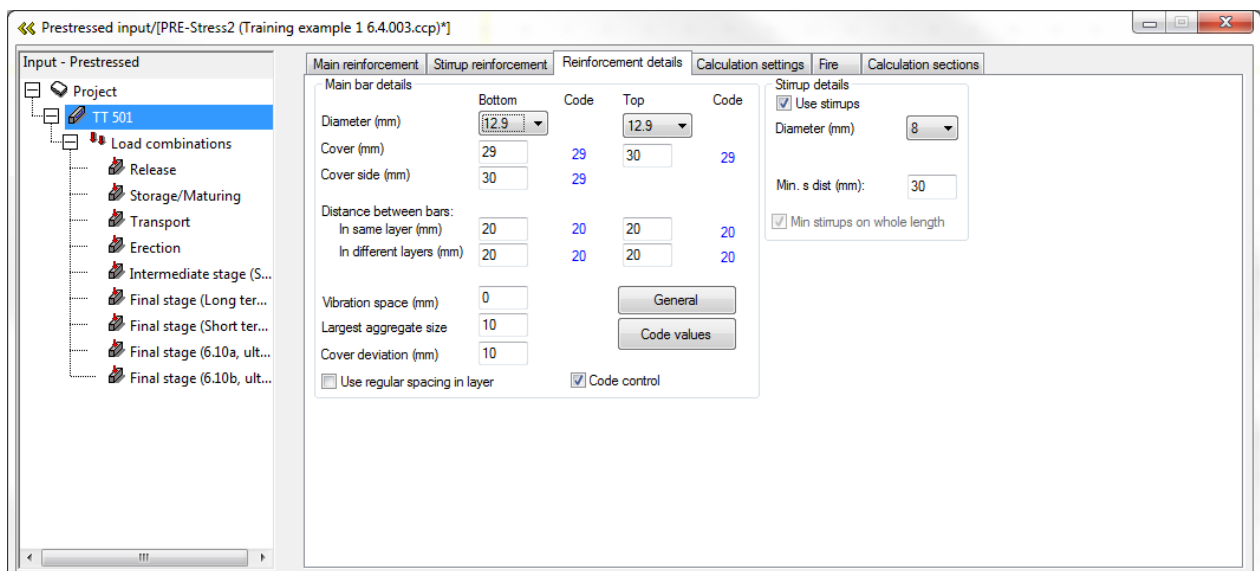
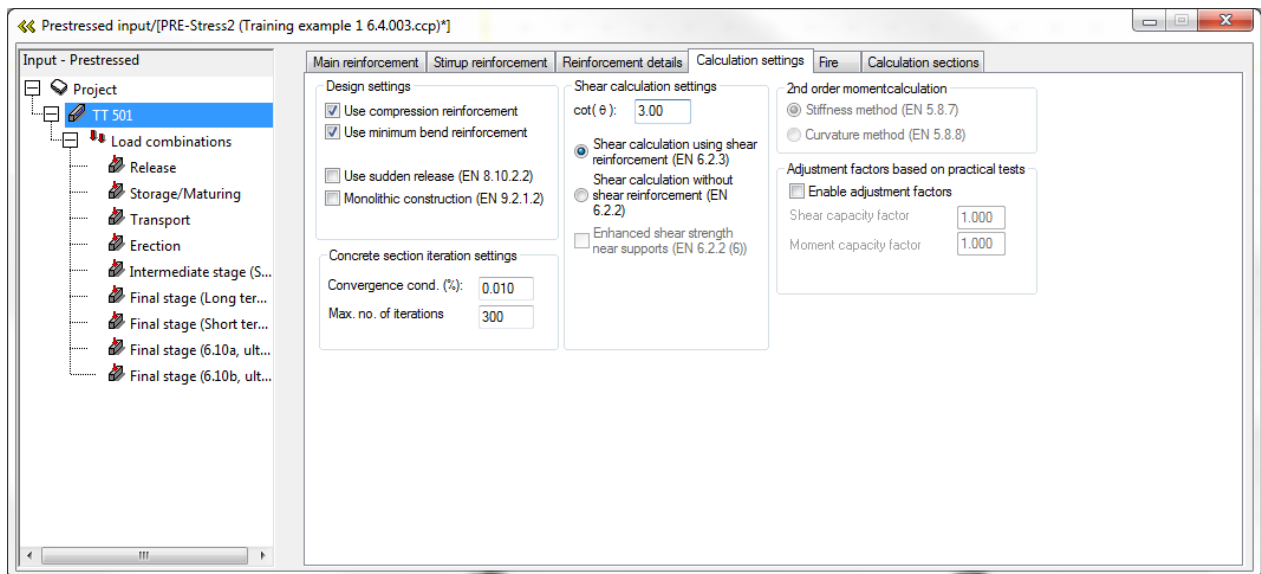

Figure 2-17 Code check concerning the reinforcement against the current code.
Figure 2-18 Calculation settings
The next two tabs, Reinforcement details (Figure 2-17) and Calculation settings (Figure 2-18), contains settings for code checks for the reinforcement and the calculations.
According to Swedish NA, 6.2.3 (2), can $\cot(\theta) = 3,0$ be used for prestressed members (Figure 2-18), check this setting if it is possible to use other values than the normal ($1 \leq \cot(\theta) \leq 2.5$) for your current code.